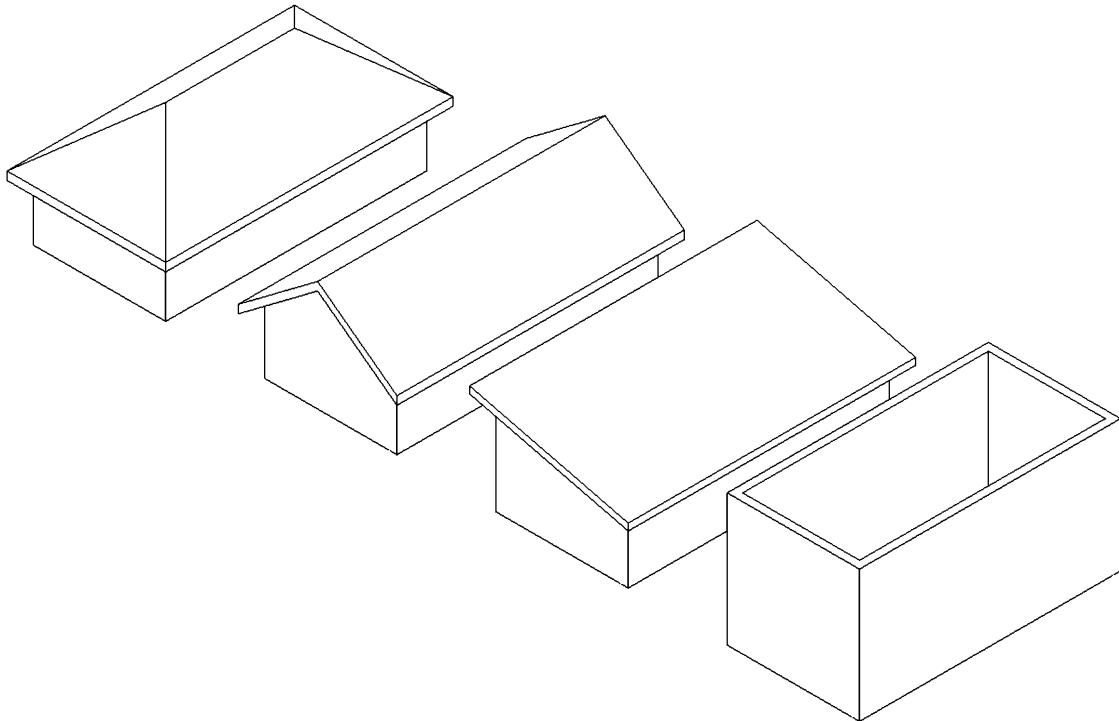

FIGURE 8-1.11 Default 3D view – shed roof
38. Switch to the **Default 3D** view (Figure 8-1.11).